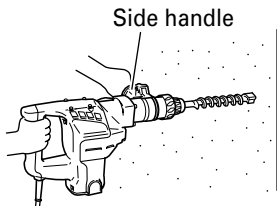

Fig. 3
1. How to drill holes (Fig. 3)